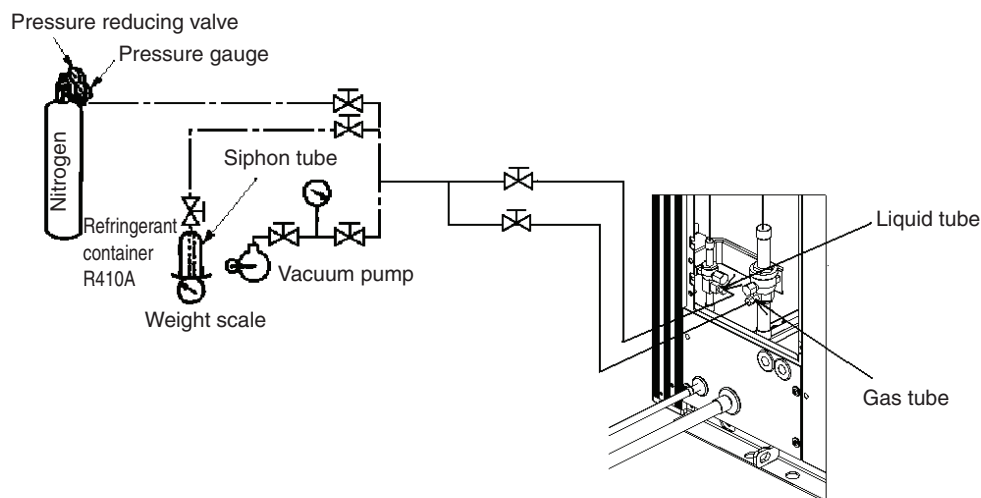

Figure 5
- (5) Tubing airtightness test and vacuum application <not detected 3-WAY multi>
- Connect the manifold gauge to both service ports - on the wide tube side and narrow tube size. Then connect the nitrogen tank, vacuum pump, and other items as shown in Fig. 5.